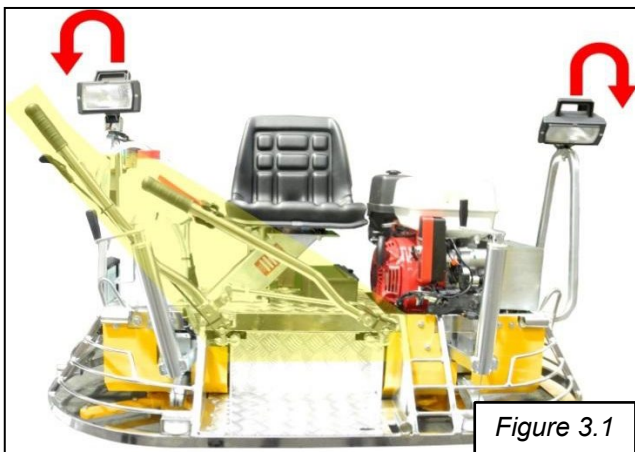

Figure 3.1
- The steering levers that are lowered (fig 3.1). See the installation section (PAR. 4.1) for data relating to the repositioning of these levers;
- The lamps are lowered and turned inwards by activating the handles (fig 3.1);
The trowel is delivered appropriately arranged in its packaging, with steering levers folded as shown in figure 3.1.